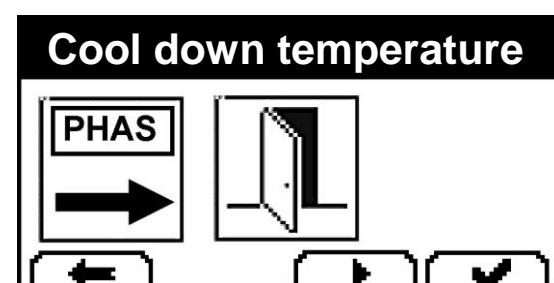

Fig. 5.15
- Select the final cooling temperature. Increase or decrease the final cooling temperature with the Δ and ∇ keys (Fig. 5.15)